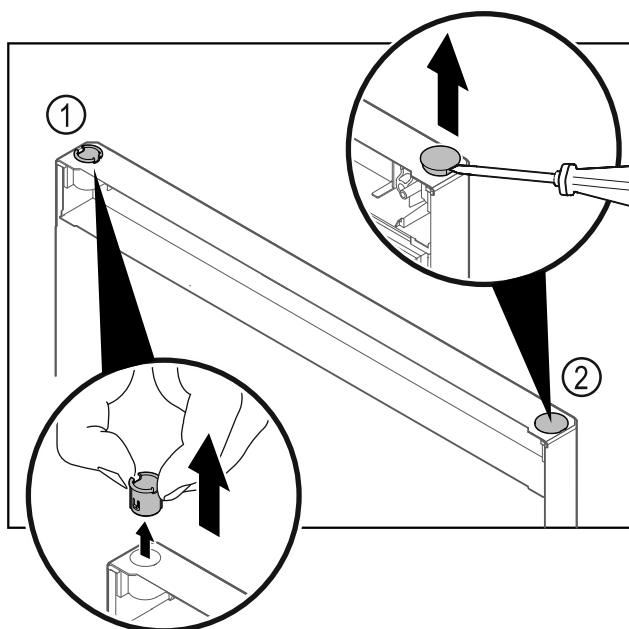

Fig. 25
- Pull out the hinge bushing Fig. 25 (1) with your fingers.
- Carefully lift the cover plug Fig. 25 (2) with a slotted screwdriver and pull it out.